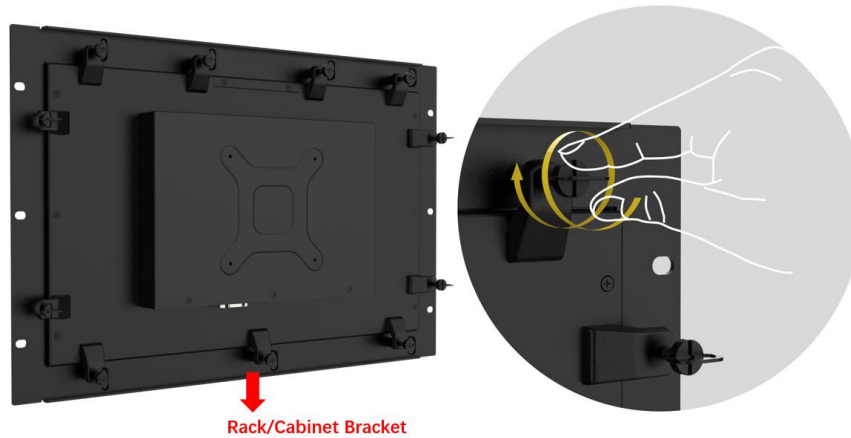

Figure 3-21: Secure the Rack/Cabinet Bracket
Step 3: Tighten the screws that pass through the rack mounting clamps until the plastic caps at the front of all the screws are firmly secured to the bracket (**Figure 3-21**).